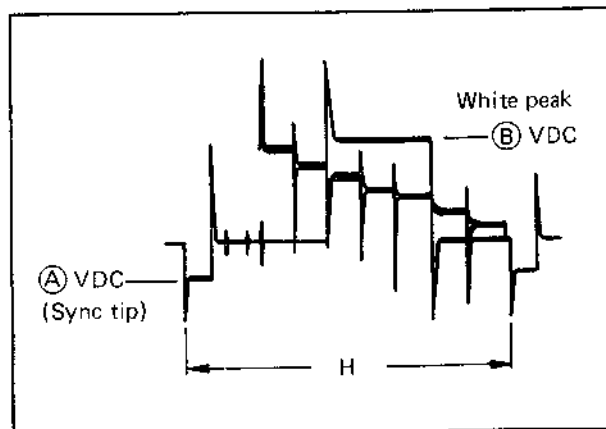

Fig. 5-28 Carrier and deviation adjustments
4. Adjust the voltage of the power supply to where the frequency counter indicates 3.4 MHz. This becomes voltage (A) in Fig. 5-28 (about 7.75 V as measured at TP-2).
5. Adjust the voltage of the power supply to where the frequency counter indicates 4.4 MHz. This becomes voltage (B) (about 9.97 V as measured at TP-2).